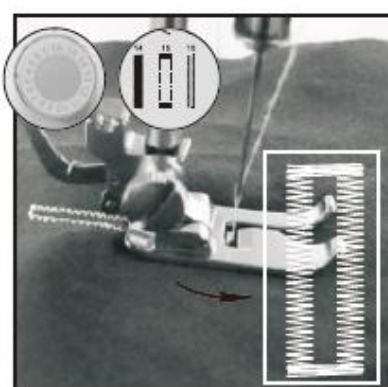

Fig.19
- 6) Choose the 7th stitch, then turn on switch and sew till buttonhole is fully sewed (Fig.19).